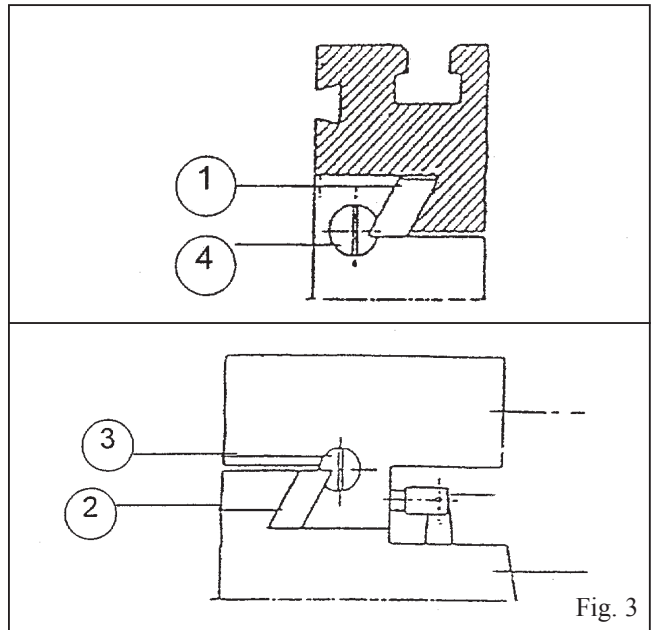

Fig. 3
4. To adjust left and right travel, adjust the sliding plate bolt until feel a slight drag when turning the table (fig. 3).
5. To adjust fore and after travel, adjust the sliding plate bolt as shown in fig. 3.